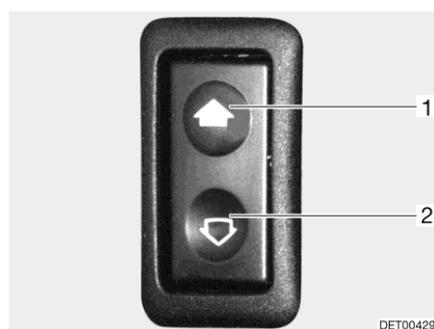

Fig. 25 Switch for electrical window winder
- Opening: ■ Press the lower part (Fig. 25,2) of the switch.
- Closing: ■ Press the upper part (Fig. 25,1) of the switch.